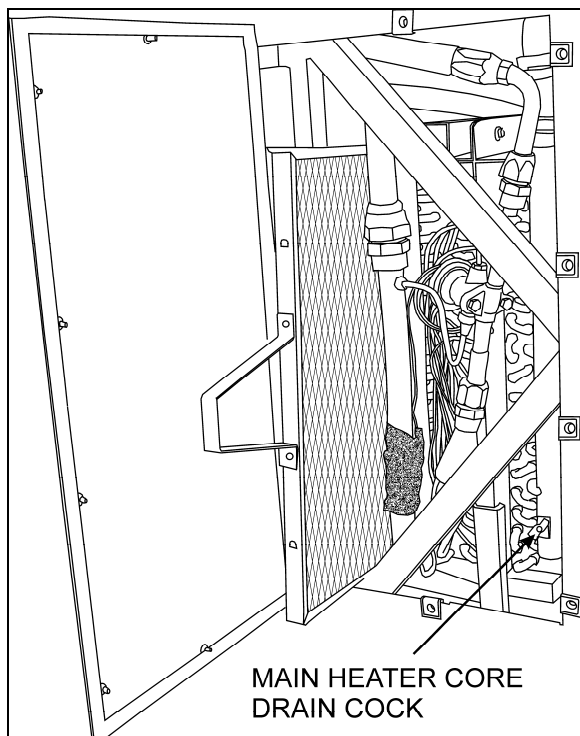

FIGURE 45: EVAPORATOR COMPARTMENT
4. Open drain cock in bottom of heater core, you can unfasten a hose connection on top of heater core (Fig.45) in order to allow air to enter while draining.